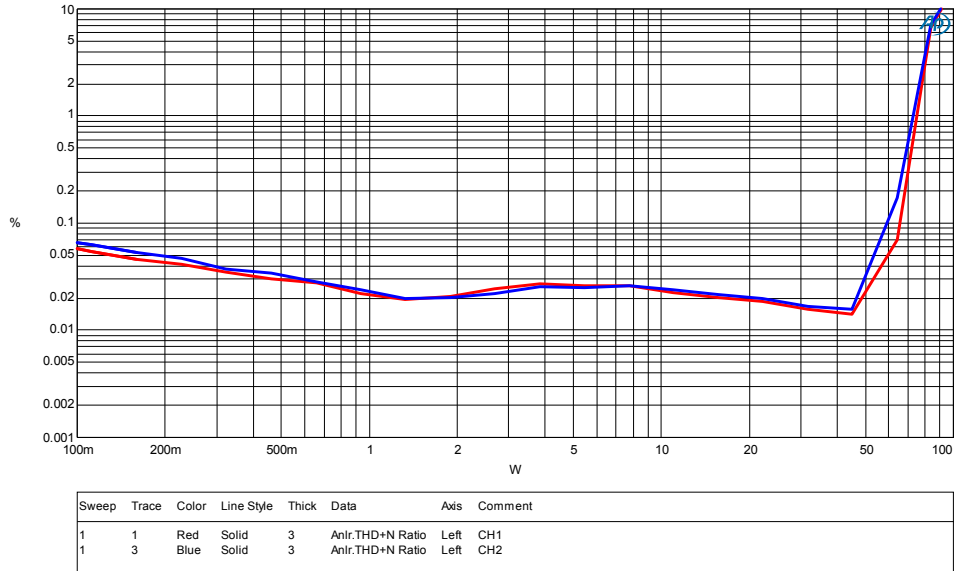

Figure 3
15. For all subsequent tests as shown on the Audio Precision graphs below (Figure 3- Figure7), the measurements are taken across J3 and J4 with an AES-17 Filter. Observe that a 1  $V_{RMS}$  input generates an output around THD+N=1% power level.